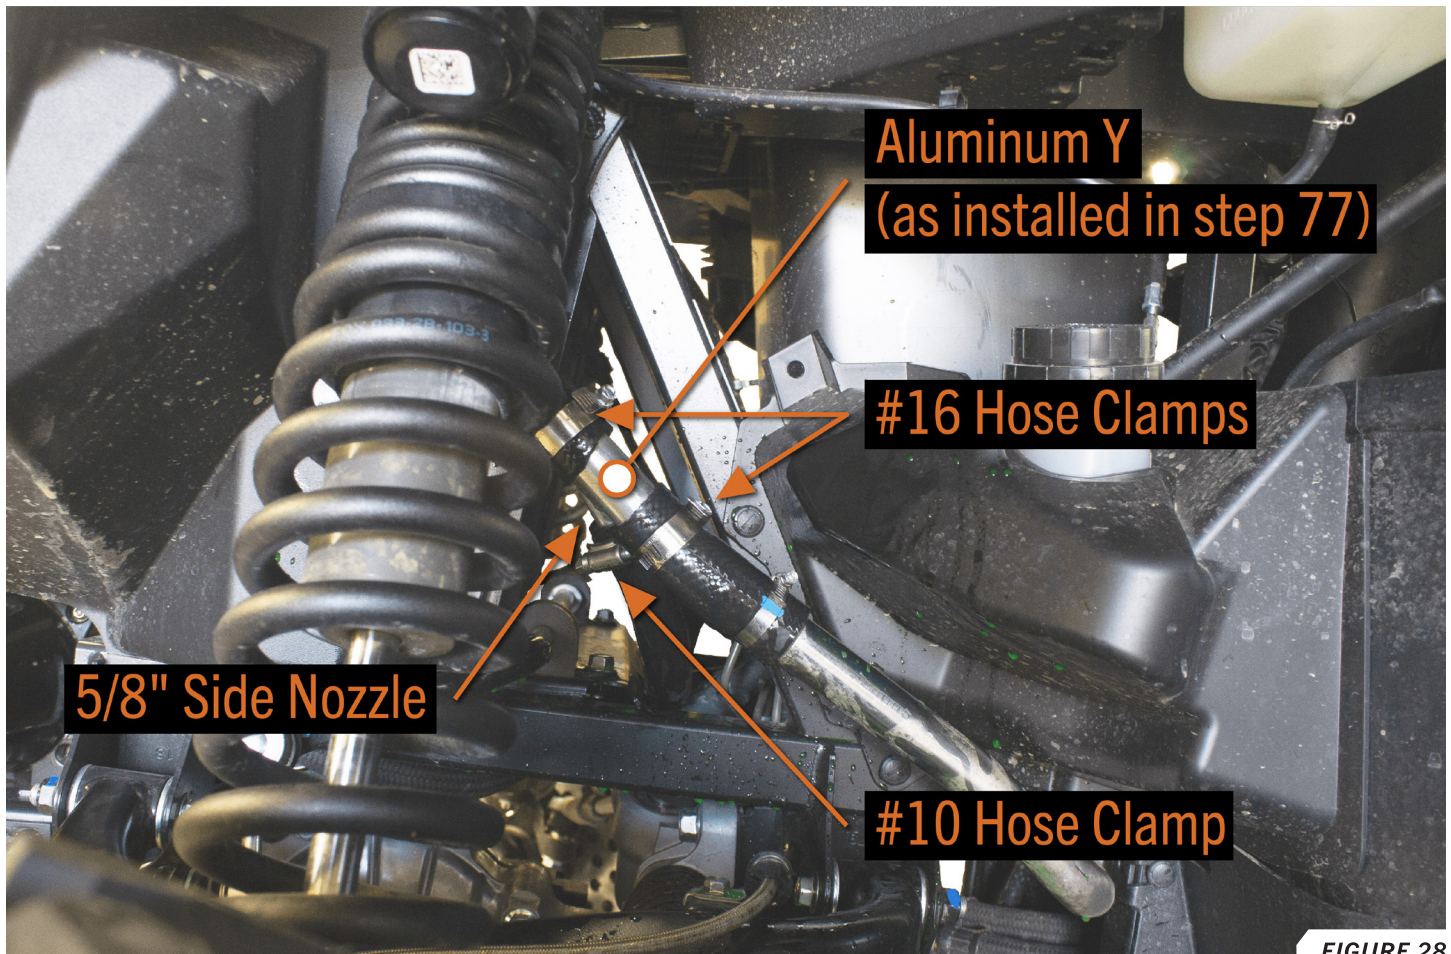

FIGURE 28
68. Slide one of the #16 hose clamps onto each side of the radiator hose, then connect the 1" aluminum Y. The $\frac{5}{8}$ " side nozzle should point toward the back of the vehicle. **FIGURE 28**